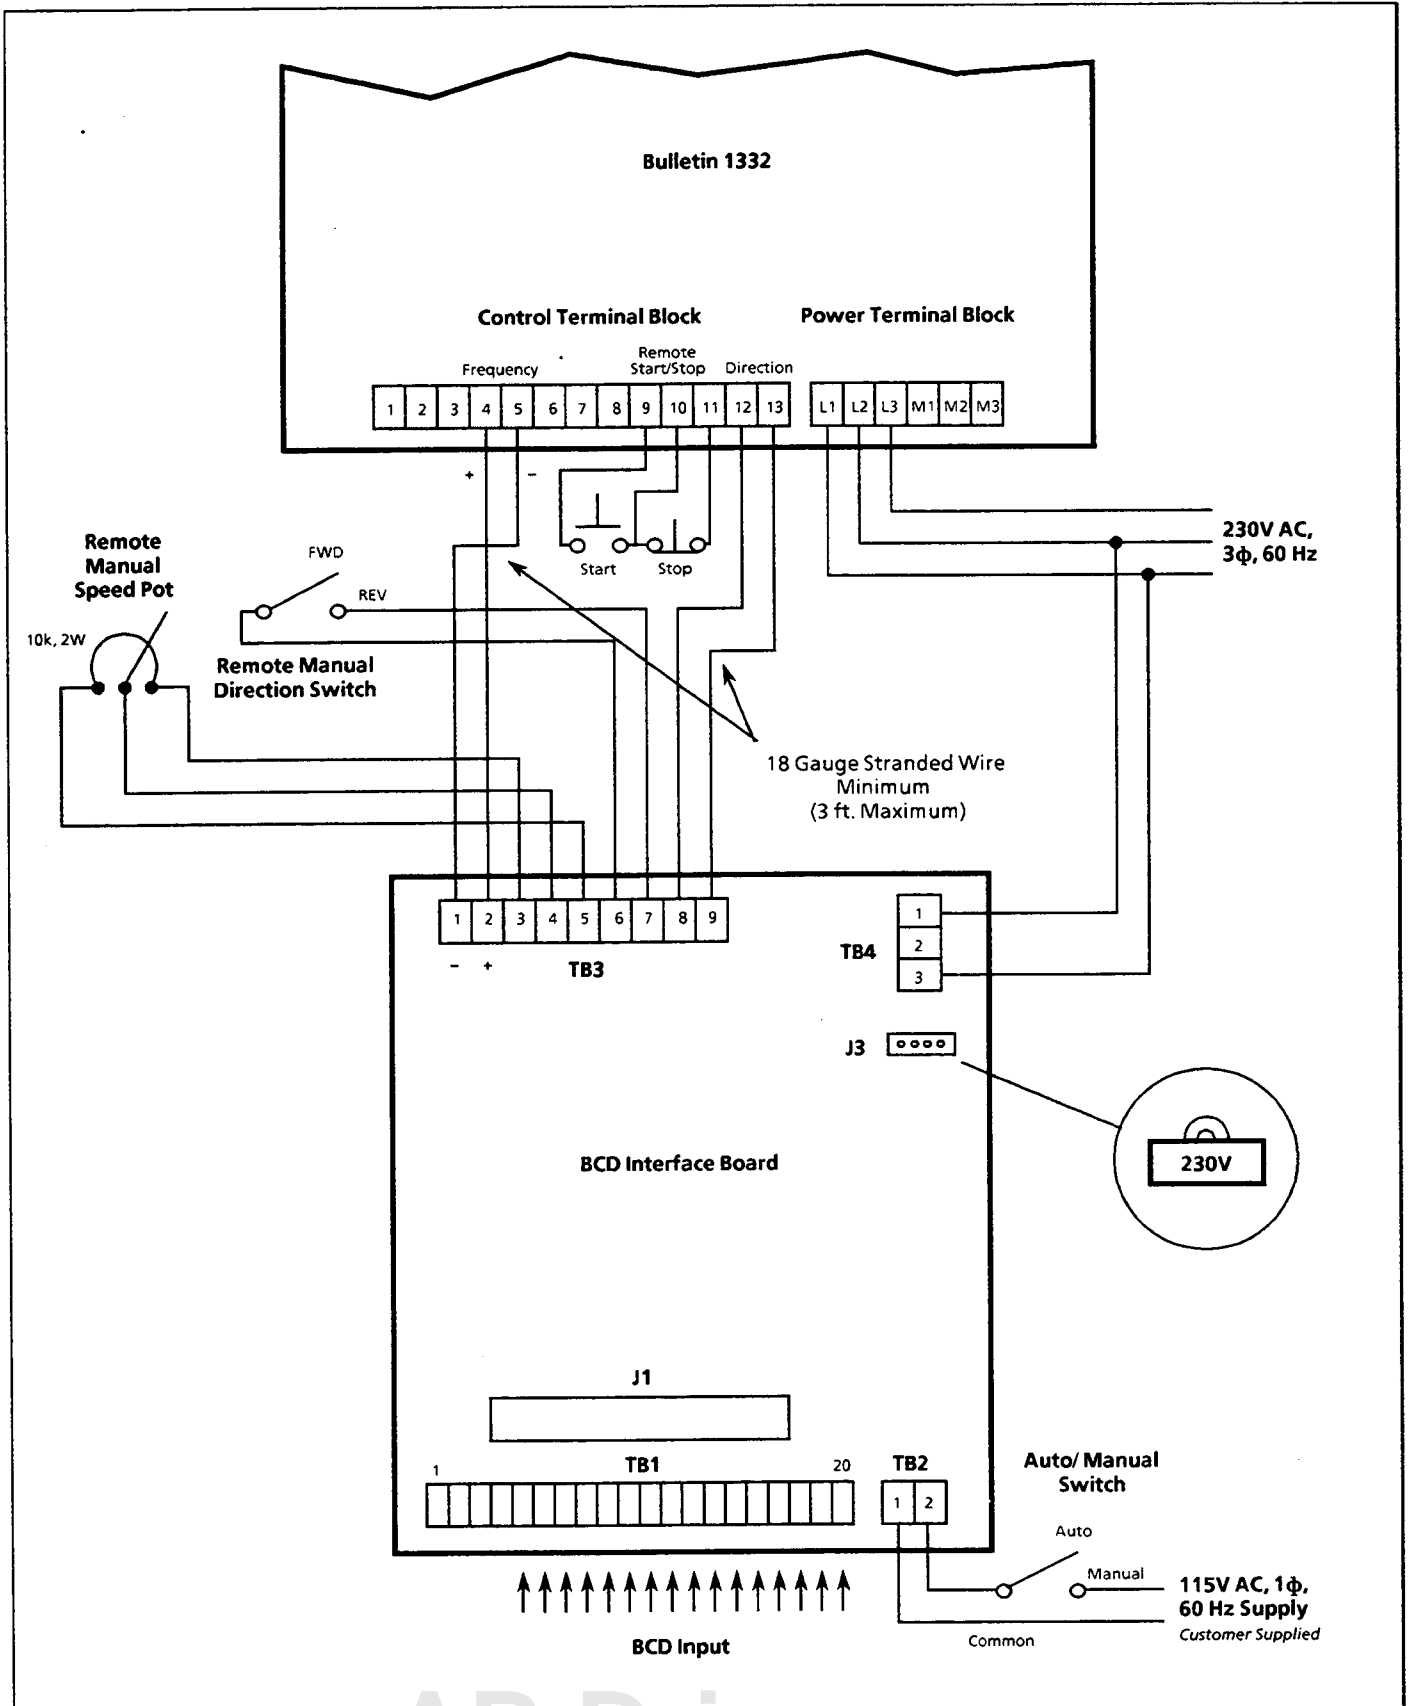

Figure 3 – Interconnection Diagram for use with 230 Volt Drives
Prior to wiring the power and BCD signals, wiring between the Drive and BCD Interface Board should be performed. Refer to Figure 3 or 3A for these connections.
**WARNING:** Incorrect polarity of remote inputs may cause personal injury from uncontrolled machine motion. Connect remote inputs (terminals 4 & 5 of the Drive) only as shown in Figure 3 or 3A.
The BCD Interface Board will accept a 115 or 230V AC, single-phase input power source at TB4. Prior to connecting the power source, the input voltage being used must be selected at jumper J3. To correctly set the jumper, select the proper jumper for the input voltage being used (115V or 230V) and insert at J3. Refer to Figure 3 or 3A.